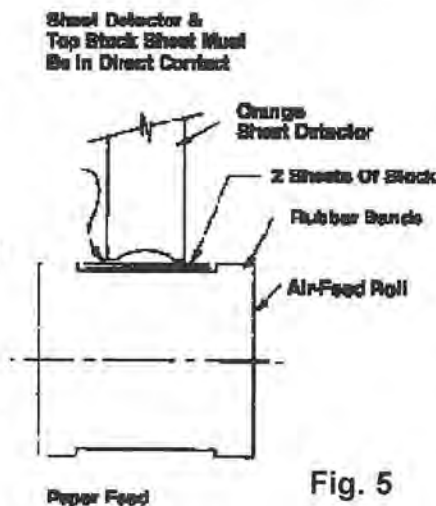

Fig. 5
8. Move the sheet detector block until the sheet detector just touches the paper. See Fig. 5
Make sure the sheet detector cannot contact the vacuum roller. Using the hand wheel, rotate the vacuum roller until the sheet detector will contact the roller on the flat surface between the countersunk holes. Place the non-folded end of the folded strip of paper on the vacuum roller between the two rubber rings (Item 4A). Lower the sheet detector onto the paper strip and lock into position. See Figure 5.
NOTE: Because paper thicknesses vary and because of normal wear (See Figure 5.), the sheet detector gap must be set or reset each time the folder is used.